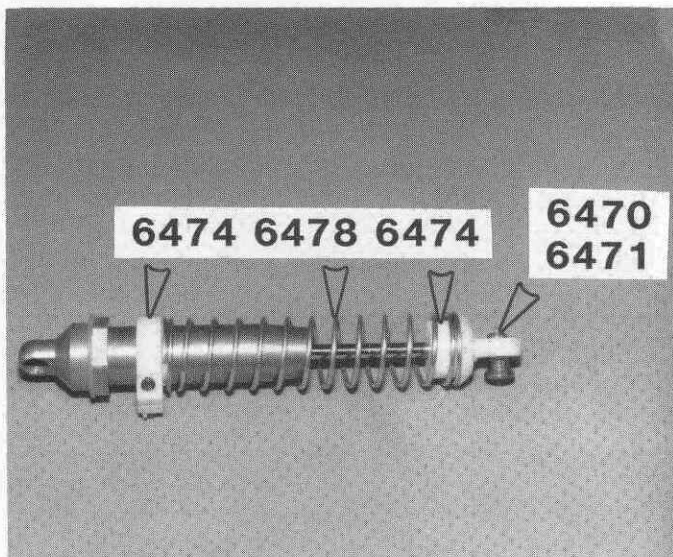

Fig. 127
□ **Fig. 127** From Bag #6-11, install the 2 #6474 spring clamps on the rear shocks. The spring should go over the thin flange. Install one with the screw head up, as shown, and the other with the screw head down. There should be a 1/4" (6.35mm) space between the collar and the body hex nut. Tighten the screws just enough to lock the collars. DO NOT overtighten. Slip on the long silver #6478 spring. There is also a long gold spring, which is stiffer than the silver spring. The silver spring will work best on most tracks, but you can experiment with the gold spring also, on your track. Take the #6471 plastic rod end and push it onto the metal ball. The easiest way to do this, is to lay the metal ball end on a table, with the flat end on the table. Set the plastic end on the ball and push it in place with your 1/4" nutdriver. Slip the spring holder on the shaft and into the spring and collapse or squeeze the spring. Then thread the plastic ball end on the shaft. You'll have to keep the shaft from rotating with a needle-nose pliers. Grab the shaft close to the threads so that you don't scratch the part that rides in the "O" rings.